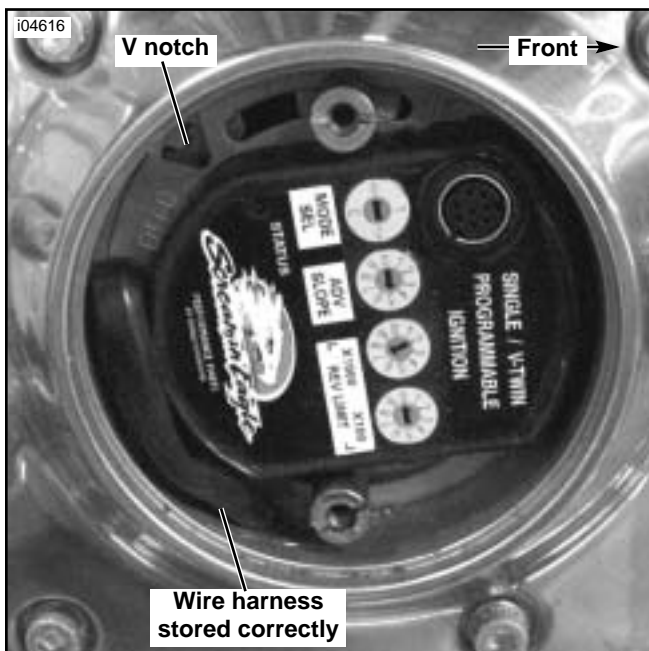

Figure 3. Ignition Module Correctly Installed
3. See Figure 3. Scribe alignment marks in the V-notch, located on the module mounting plate, for approximate ignition timing during installation.
9. See Figure 3. Position the new ignition module in the gearcase and route the wires back to the connector location.
- See Figure 3. Position the new ignition module in the gearcase and route the wires back to the connector location.
- See Figure 3. Scribe alignment marks in the V-notch, located on the module mounting plate, for approximate ignition timing during installation.
See Figure 3. This section describes ignition-module switches and switch functions.